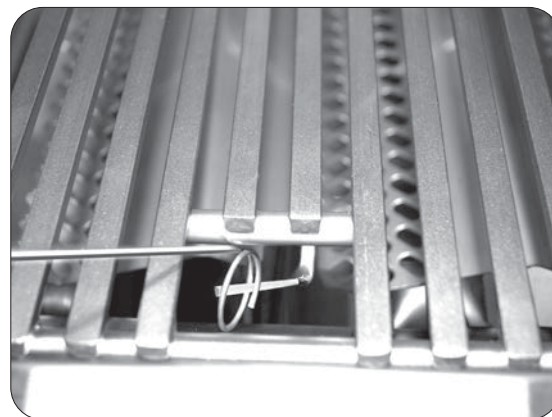

Fig. 25-2 - Manual lighting
2. Insert either a burning long-barrel butane lighter, a burning long-stem match, or a burning match held by a wire extension holder through the cooking grid opening to the top of the burner (Fig. 25-2).
4. If the burner does not light within five (5) seconds of turning the control knob, **immediately depress the knob and turn the valve to OFF**. **WAIT FIVE (5) MINUTES** before repeating steps 2 through 4 of the **MANUAL LIGHTING** instructions.